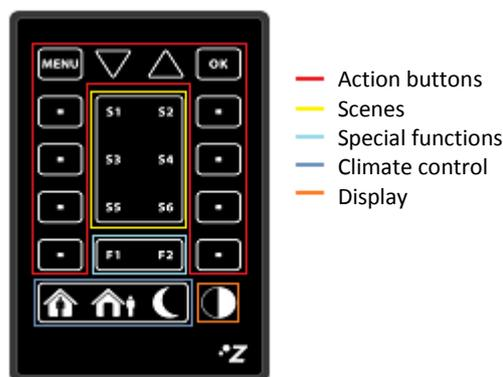

Figure 2.3. ZAS remote control
As shown by Figure 2.3, the first button row of the IR remote matches the first button row of ZAS itself, both regarding position and functionality. The **Menu**, **Arrows** and **OK** keys can be found.
- **Action buttons only for Page 1?:** this parameter sets if the action buttons of the remote control (see Figure 2.3) will only control the configuration established for page 1 (option "Yes") or if they will simulate the behaviour of the buttons of all the configured pages (1-4), with option "No".
- **Scene 1-6 (S1-S6):** these parameters allow establishing the scene number (1-64) that will be sent to the KNX bus (through the object "[General] Scene: send" when pressing the scene buttons in the remote control (Figure 2.3).
- **HVAC mode buttons:** this parameter allows selecting the type of control that the climate buttons of the remote control (see Figure 2.3) will carry out: **direct control** of the special modes of thermostats 1 and 2 of Roll-ZAS, being possible for example to simulate, with every press, the arrival of a new special mode to the corresponding object ("[Tx] Special mode"), without linking any group address.